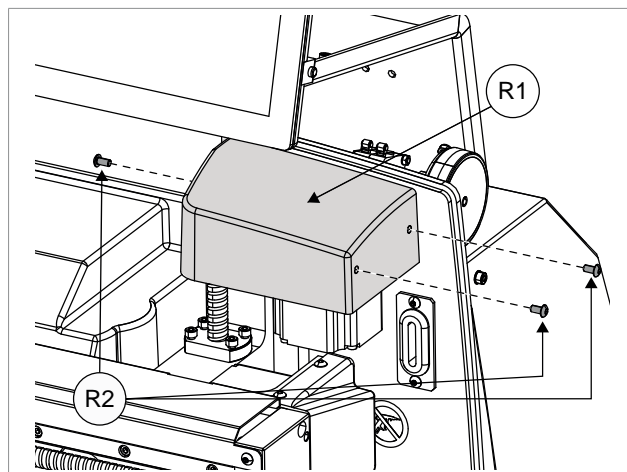

Fig. 97
- 5) Unscrew and remove the screws (R2) and remove the cover ( R1) to gain access to the belt. (Fig. 97)